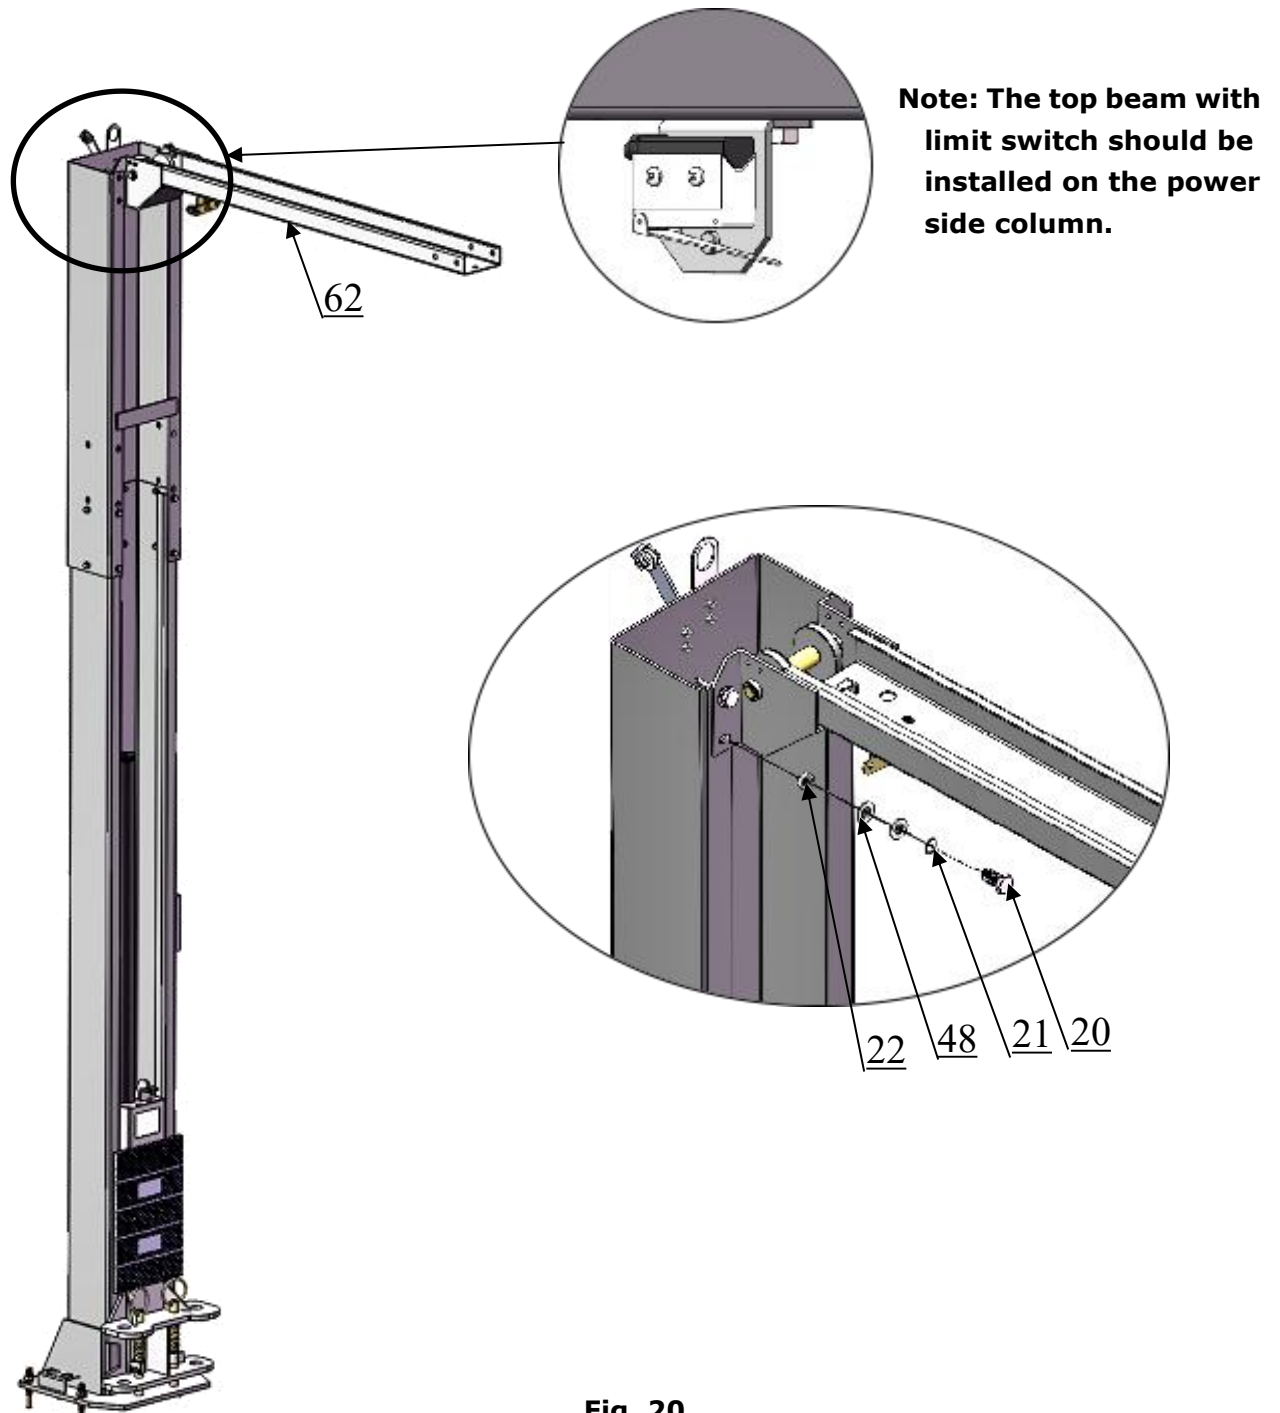

Fig. 20
1. Hook the top beam(with limit switch) on the power side outer column, align the holes and install the bolts. (See Fig. 20).